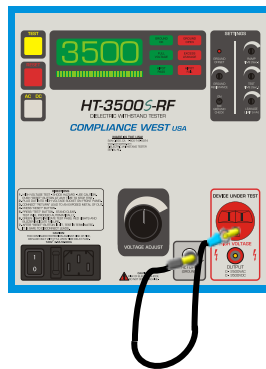

Figure 3. Short on the Ground Continuity Circuit
4. Plug the supplied 18 AWG GL Test Lead (Alligator Clip/Banana Plug ends, black) into the **RETURN** receptacle on the panel, then, connect in shortcut circuit the green alligator clip end to the Ground Connector Tip connected on step 3. See Figure 3.